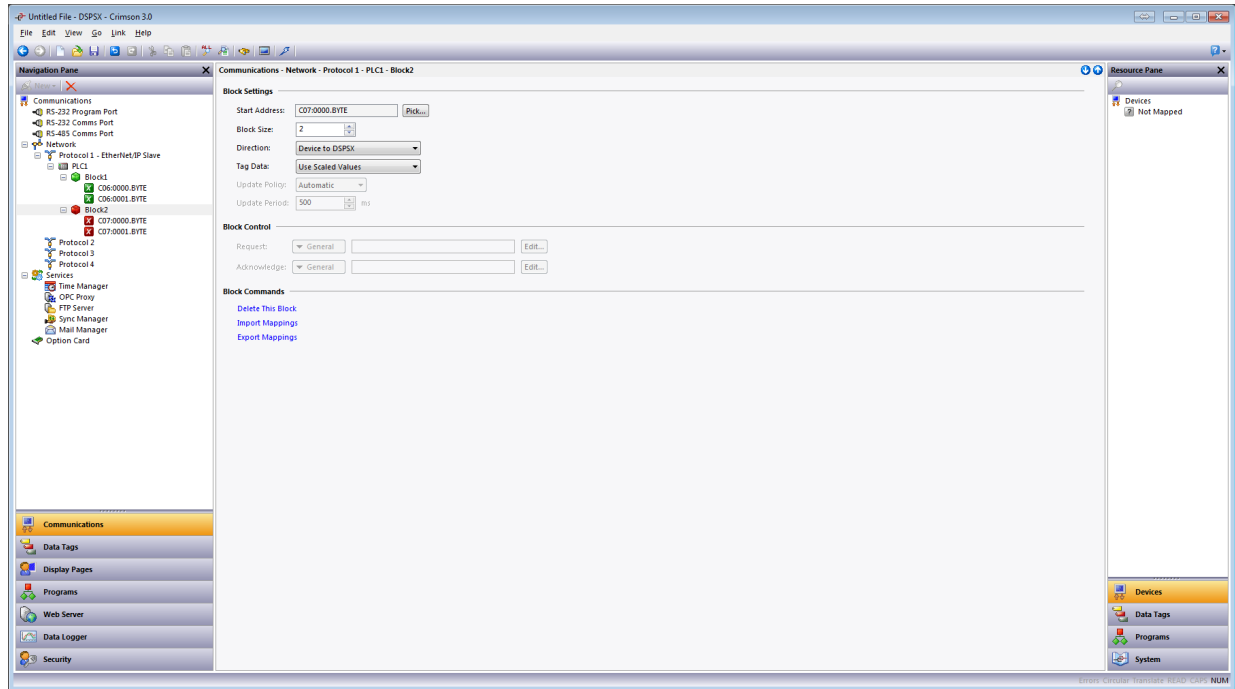

Figure 9.
- e. Referring to Figure 9, specify the `Block Size`; 2 in this example.